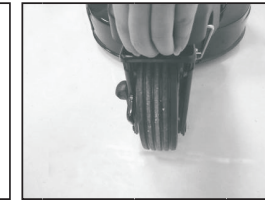

Fig.16B
- 1) Lift front caster wheel holder a little bit, pull out the support lever and meanwhile rotate counterclockwise (Fig.16B/ Fig.16C)